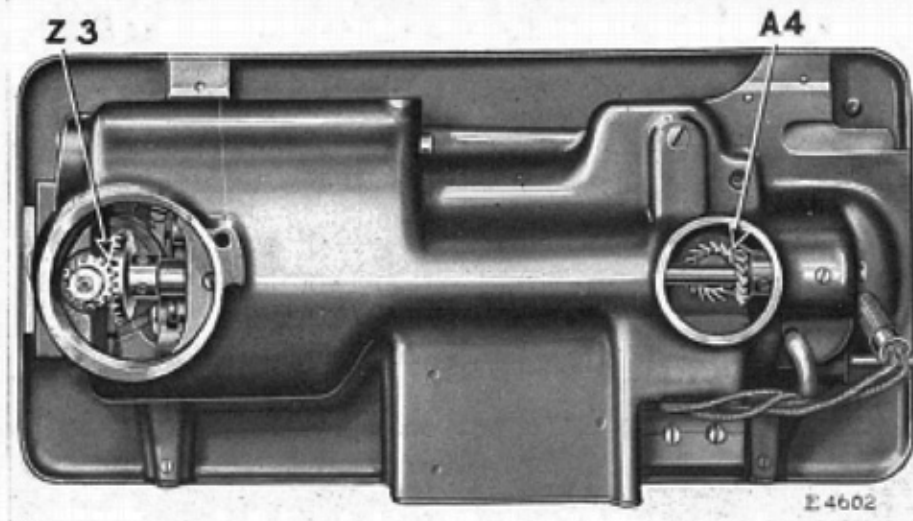

FIG. 29. BASE VIEW, SHOWING BEVEL GEARS
1. There are three sets of bevel gears in the machine, as shown at (Y3, Fig. 28) and (Z3 and A4, Fig. 29). These bevel gears
3. The two lower sets of bevel gears (Z3 and A4, Fig. 29) are exposed by removing the two round sheet metal covers located in the bottom of the machine, as shown in Fig. 7, page 7. This can be done with a small screw driver.